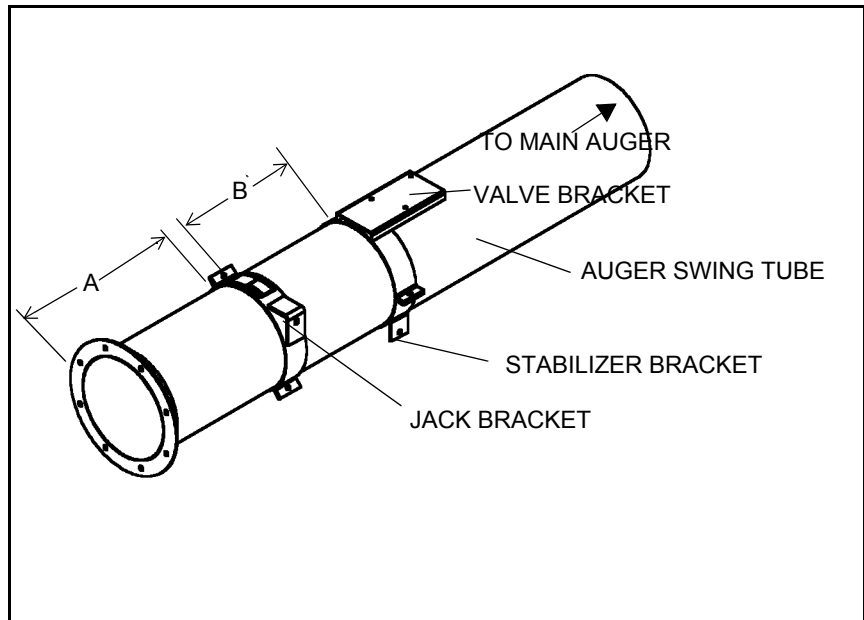

Figure 2.3
1. Place jack bracket with half clamp onto tube, close to where the end of swing tube joins with the hopper (see Table 2.1). Loosely secure these half-rings with two 7/16" x 1" bolts and locknuts. Position ring so that the jack bracket is vertical to the safety decal on top (Figure 2.3).
2. Adjust jack to approximately 1" above its lowest setting. Attach the jack to the jack bracket using the correct hole in upperplate as shown in Figure 2.3. Use a 1/2" x 1" bolt and locknut and tighten only enough to allow the jack to pivot.